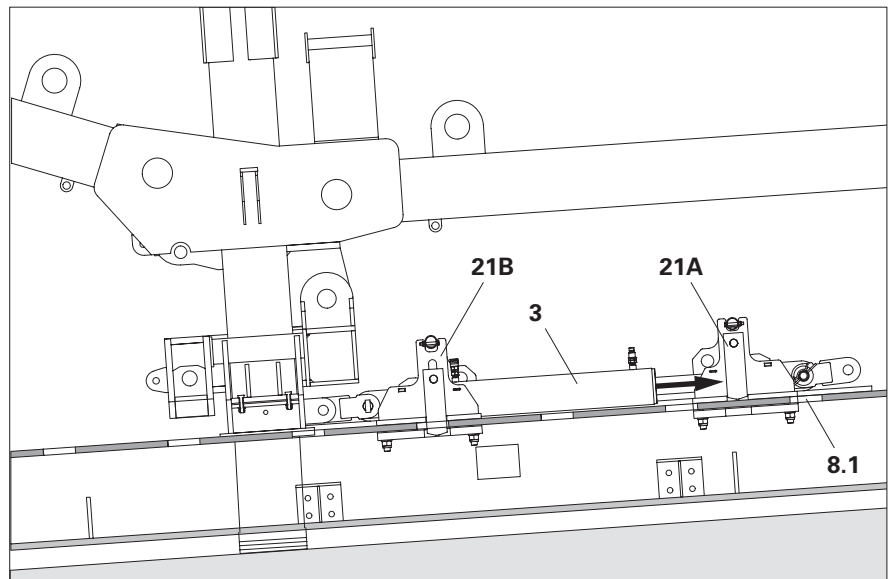

Fig. C2.05
- The drive catch head (**21A**) is pushed back on the rail. (Fig. C2.05)